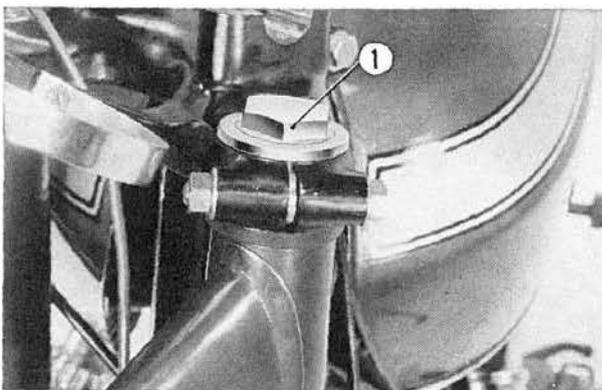

Fig. 19-17 ① Top filler plug
- b. Remove the top filler plug and fill the front fork with **7.0~7.3 ozs. (220~230 cc) of premium quality of SAE 10 W-30 grade.** (Fig. 19-17)
- (3) Check the following items and if there is any fault, correct before riding.